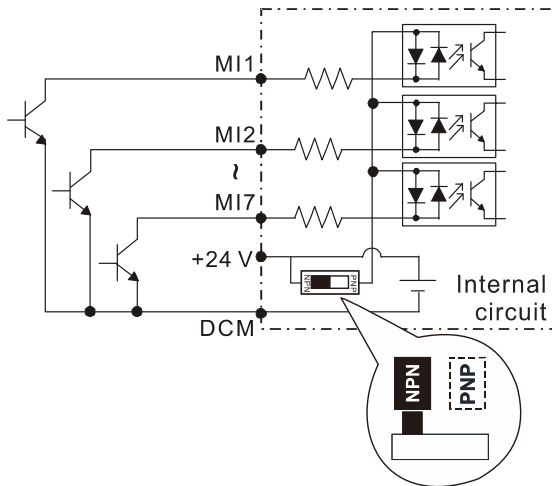
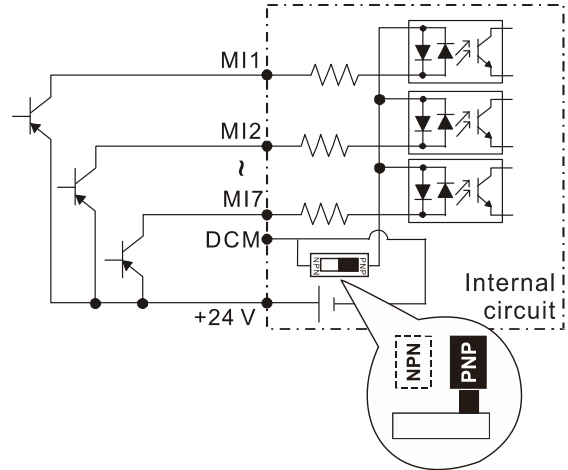

Figure 6-2
Figure 6-3
- ☑ When the photo coupler is using the internal power supply, the switch connection for Sink and Source modes are as shown in Figure 6-2 and Figure 6-3 above: